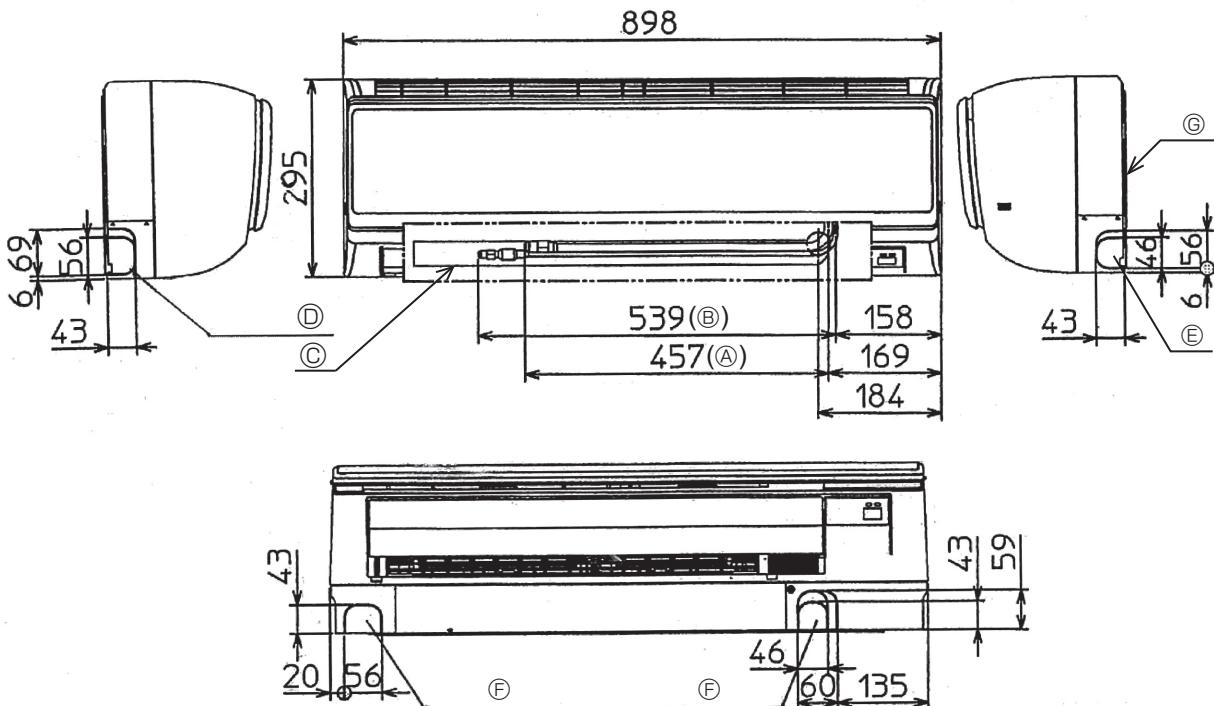

Fig. 4-2
4.3. Positioning refrigerant and drain piping (Fig. 4-2)
- (A) Gas pipe * Indicates the condition with accessories mounted.
- (B) Liquid pipe
- (C) Drain hose (Effective length: 400)
- (D) Left-side piping knockout hole
- (E) Right-side piping knockout hole
- (F) Lower piping knockout hole
- (G) Mount board ①